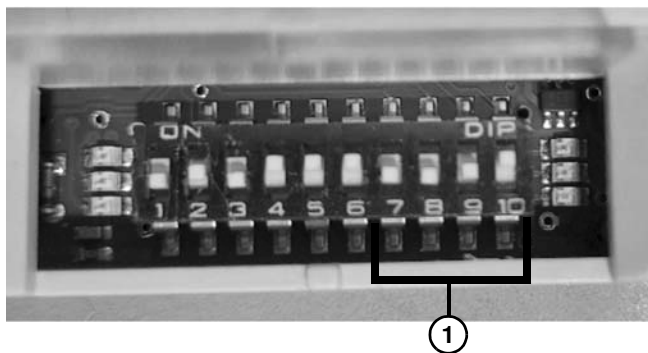

Figure 28
- Acceleration/Deceleration: DIP Switches 7-10 (**Figure 28, item 1**), and switch settings chart **Figure 29**).